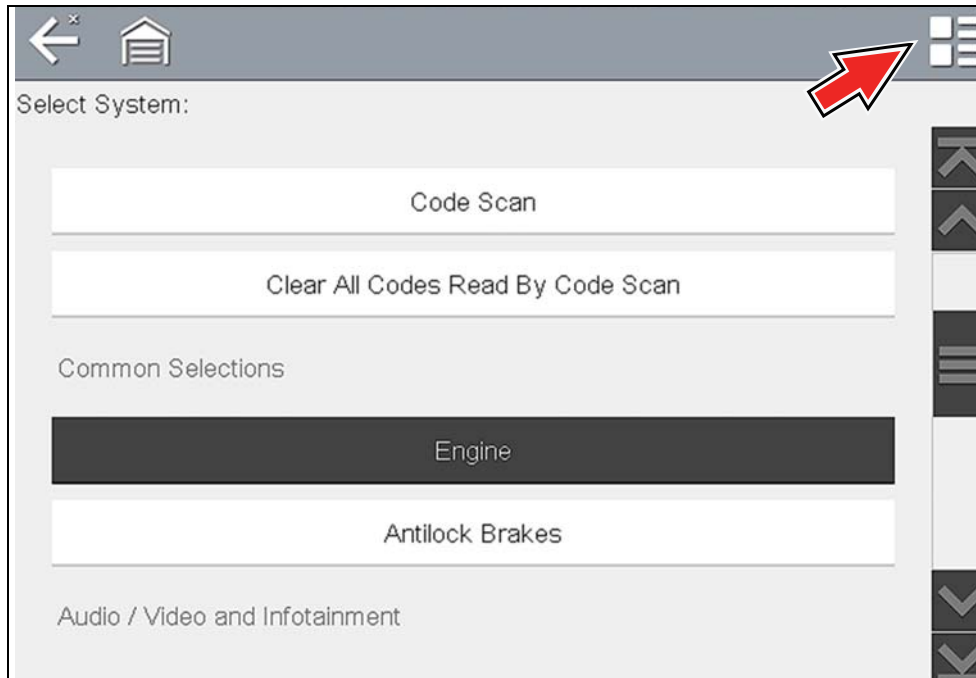
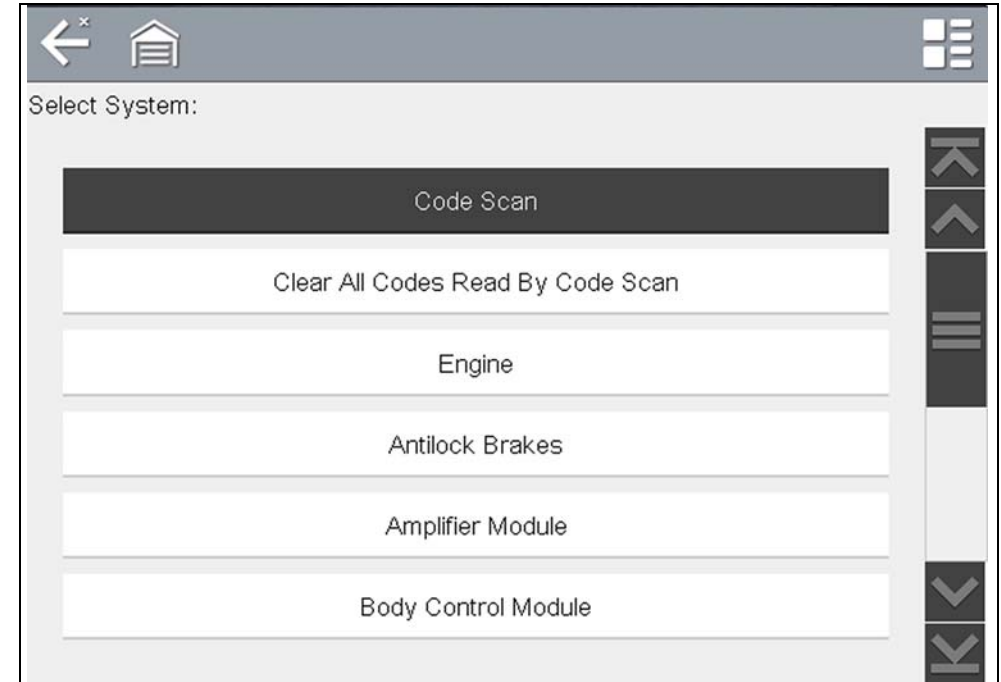

Figure 6-5 Typical systems menu (categorized list view)
Figure 6-6 Typical systems menu (non-categorized list view)
3. A menu of available systems and/or options is displayed. Select a system or option (Figure 6-5) to continue.
Depending on your preference, select the icon (arrow in Figure 6-5) to toggle the display between a categorized (Figure 6-5) and non-categorized (Figure 6-6) list.